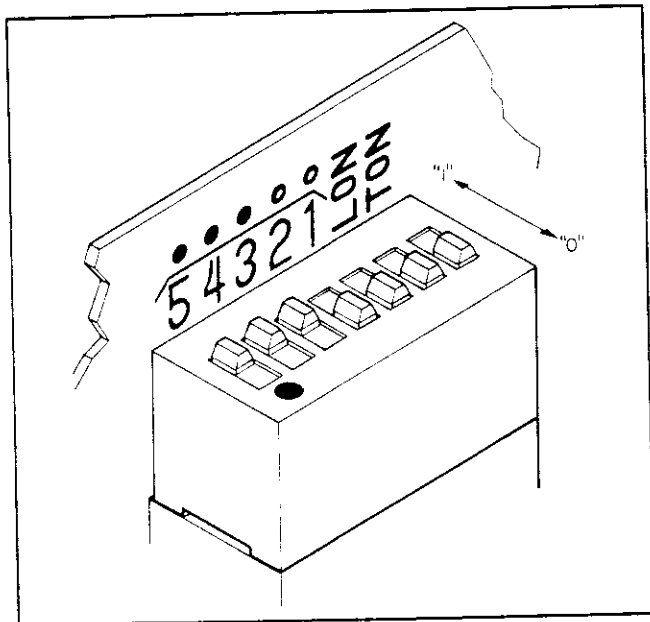

Figure 2-3. The HP-IB Address Switch Shown as Set by the Factory. The Address Shown is 11100 in Binary with Both Talk Only and Listen Only Off.
- e. Use a pencil to set the switches to the desired HP-IB address and Talk Only (TON) or Listen Only (LON) condition. The switch is illustrated in Figure 2-3. Facing the board, the left hand switch (marked with a "5") is the most significant address